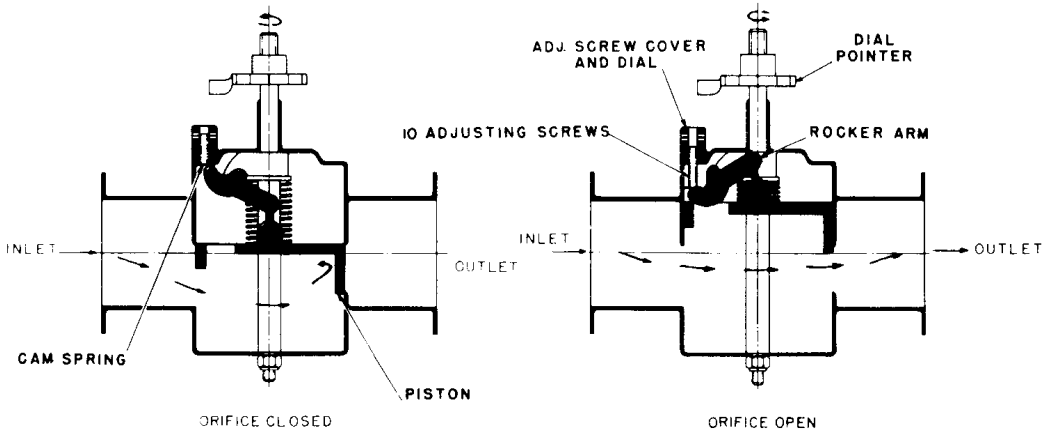

Figure 3. Theory of Operation
6. Adjust the rectangular port so that it will be fully opened when the valve is in the high fire position (10 on the dial plate). Accomplish this by inserting an Allen wrench in the last socket head setscrew and slowly turning it in until the port is in the proper position. Repeat this process for the next-to-last setscrew. Refer to Figure 3 and the section on Theory of Operation.